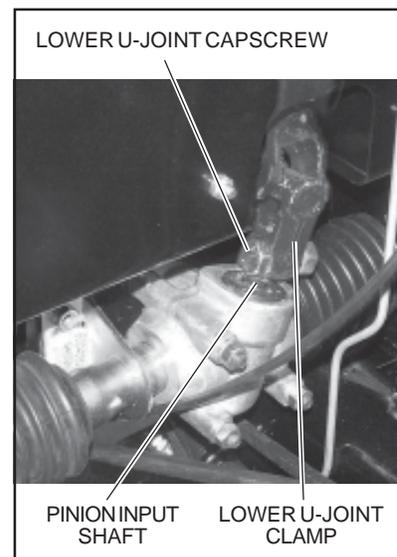

Figure 5
- Unscrew the tie rod ends (Figure 5) while counting each revolution of the tie rod end. Note the total number of revolutions required to remove the tie rod end from the rack.
- Remove the hex head capscrew (Figure 5), nut, and lock washer securing the lower steering shaft U-joint to the rack and pinion assembly.